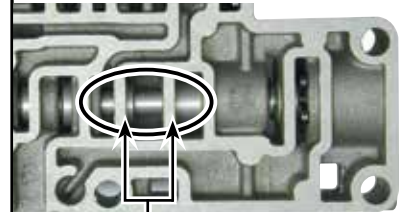

Figure 1
Identify early vs. late valve body (Figures 1 & 2).
- Identify valve body and valve application (Figures 1, 2 & 3).